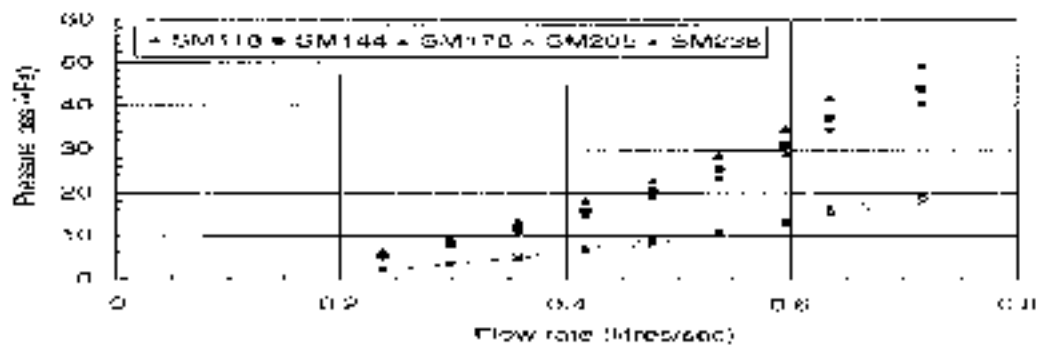

Figure 2.4 Pressure loss through the primary coil, fittings and the 3-port valve fitted to SystemMate III units
*For example: At 0.5 litres/sec primary flow rate, the pressure loss through the Systemate model SM205 (coil fittings + 3-port valve) is 12kPa (from Figure 2.4). The maximum pump head available at 0.5 litres/sec and setting 3 is 32kPa (3.2m H2O), therefore 20kPa is available for the boiler circuit.*